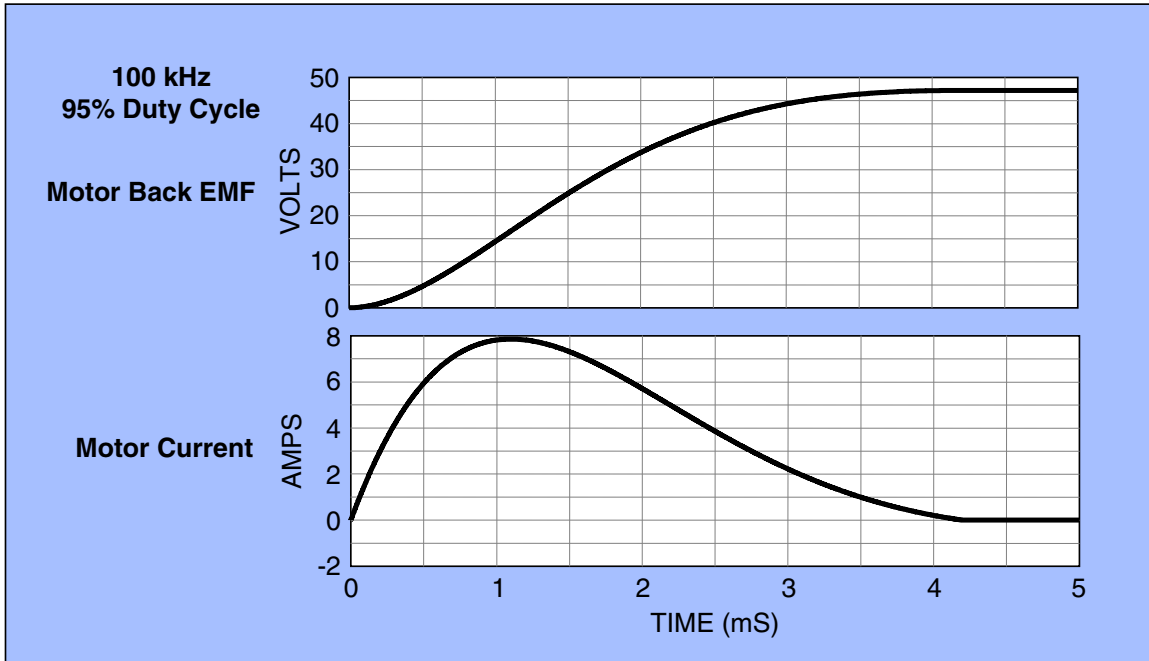

Figure 6. A graphical approach to determining maximum motor current – here the dynamic simulation of the Galil BLM-N23-50-1000-B brushless motor is illustrated.
If $V/R > 15$ amperes, then consideration must be given to several factors in the design. In this example, the R_m is 1.2 ohms. Assuming a 60 volt drive voltage, then $V/R = 60/1.2 = 50$ amperes. When the initial voltage is applied to the motor, the current ramps up as explained in equation (2). As the back EMF builds up, the current will taper off as shown in Figure 6. Maximum current may never be reached in normal operation because of the back EMF. The torque constant of the motor and the inertial load will govern the rate at which the motor comes up to speed. If the
Note that in this example the simulation depicted in Figure 6 discloses that the current will never rise above 8 amperes — well below the 15 amperes limit. If the current were to exceed the limit of the driver, adding external series resistance or inductance would limit the peak current and di/dt respectively, but each will adversely effect the performance of the system. If the start-up current is controlled with a PWM drive by limiting the duty cycle of each pulse and not to exceed the maximum peak current rating of the driver, the motor can safely accelerate. The current monitor feature of the SA303 and SA306 makes this type of feedback relatively simple to implement.